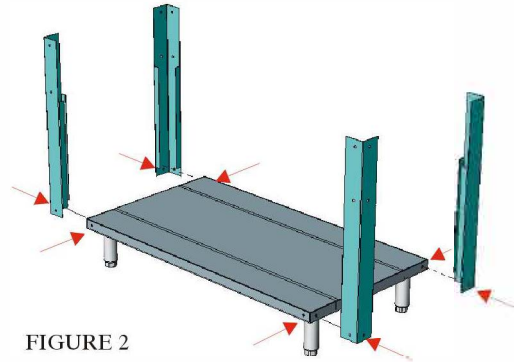

FIGURE 2
B. Turn bottom over. Install corner posts as shown in figure 2. Use $\frac{1}{4}$ -20 x $\frac{3}{4}$ " Truss Head screws.